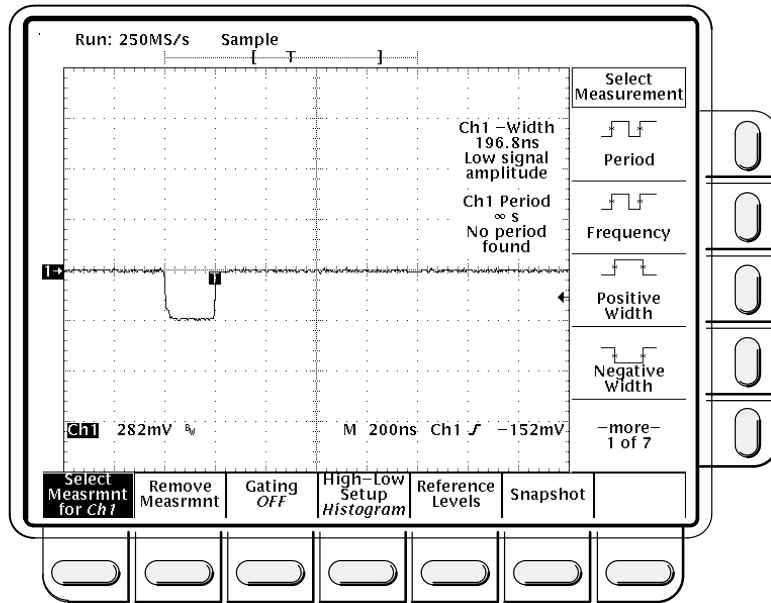

Figure 1-40: Sync Duty Cycle Test: One-Div Neg Pulse Waveform
- Turn the pulse generator **OUTPUT (VOLTS)** control until the signal on the oscilloscope shows a one division negative going pulse (See Figure 1-40).